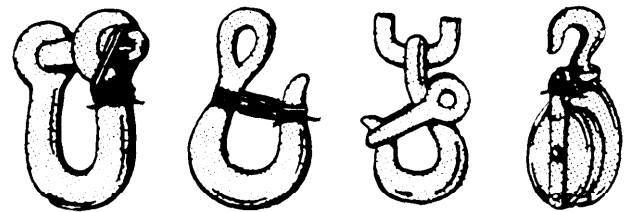

Figure 13-26.—Mousing.
**Mousing** is a technique often used to close the open section of a hook to keep slings, straps, and similar attachments from slipping off the hook, as shown in figure 13-26.
Shackles are moused whenever there is a chance of the shackle pin working loose and coming out because of vibration. To mouse a shackle, simply take several turns with seizing wire through the eye of the pin and around the bow of the shackle. Figure 13-26 shows what a properly moused shackle looks like.